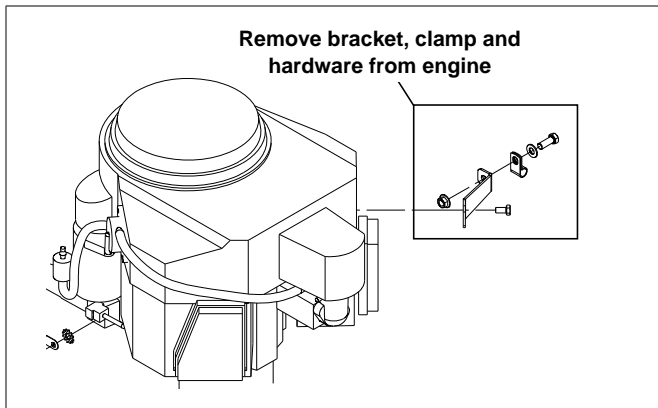

Figure 3-9
16. For mowers with **Kawasaki engines and with serial numbers higher than 11010000** (frames **with** ROPS pockets), remove the throttle cable stand-off bracket and clamp from the engine. Figure 3-9